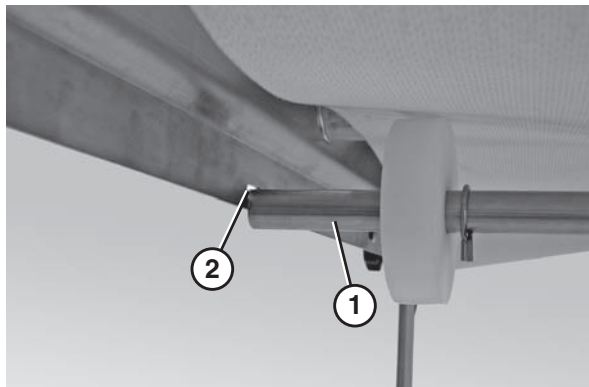

Figure 27
2. Push up on the return shaft (**Figure 27, item 1**) and slide the notched end of the shaft through the small slot (**Figure 27, item 2**) on the opposite side of the frame.